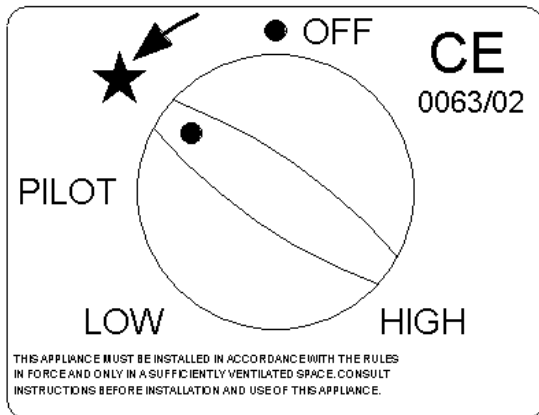

Fig 5a
Step 1a. To ignite the pilot push the control knob in, turn anti-clockwise towards the spark position and hold in for 15 seconds. (Fig 5a)